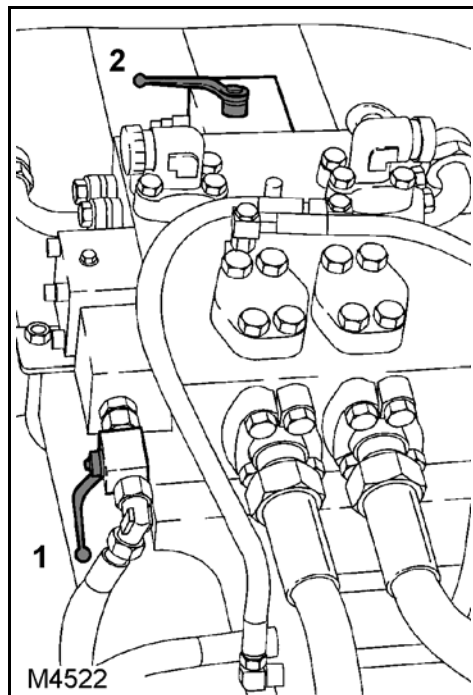
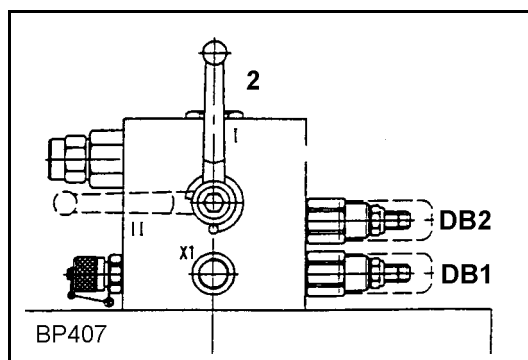

Fig. 220 Ball valves on pump kit control block
Fig. 221 In detail: Ball valve 2
3. The hydraulic oil becomes very hot because a large portion of the oil constantly flows through the pressure relief valve (PR2; 50 bar reduction (**Fig. 220**)).
- Close ball valve (1) (**Fig. 220**) (position “Pressure control”).
- Move ball valve (2) (**Fig. 220**) / (**Fig. 221**) into position (II) “Pressure control”.
- Leave the ball valve (2)(**Fig. 220**) in position (II) "Pressure control" and
- reopen the ball valve (1).